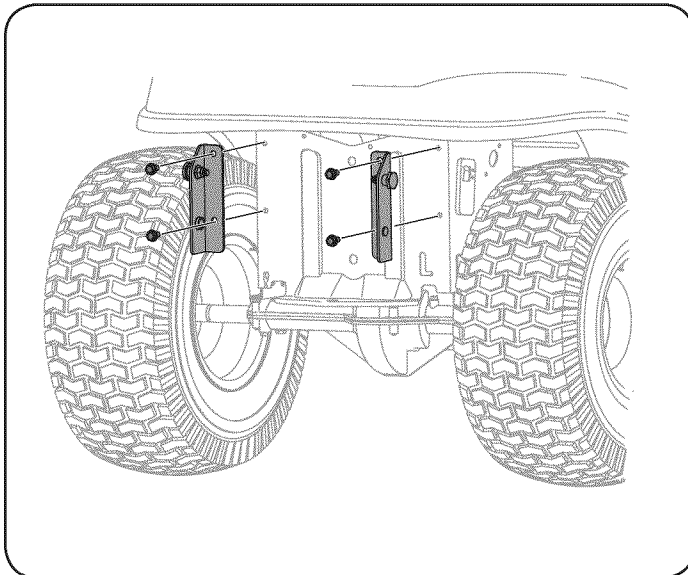

Figure 2
3. Mount the brackets to your tractor using four self-tapping hex screws included with your mounting bracket kit. See Figure 2.